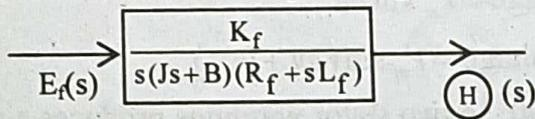

Fig: 1 (e) Represents the block diagram of a field controlled DC serve-motor
**Step 3:** Combine the blocks in figures 1.b and 1.c
**Step 4:** Apply block diagram reduction technique in figure 1.d